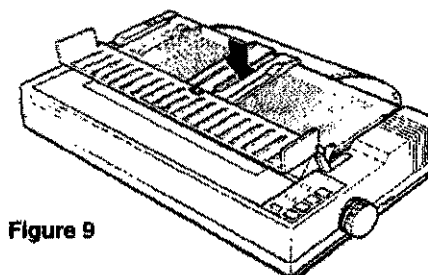

Figure 9
5. Replace the paper guide on top of the loaded paper, making sure that the edge guides on the paper guide are pushed to the middle of the paper guide (Figure 9).